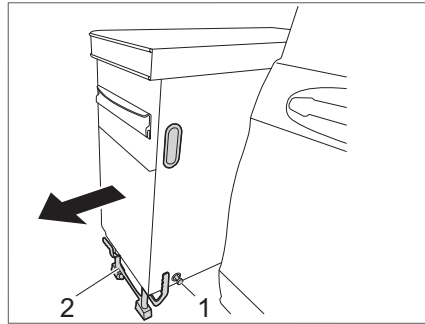

Fig. 30 Unfold foot
- Pull the lever (Fig. 30,1) of the foot lock outwards. The supports (Fig. 30,2) swing down.
- ▷ Make sure that the supports (Fig. 30,2) engage.
- Pull the kitchen unit outwards and set it down on the supports (Fig. 30).